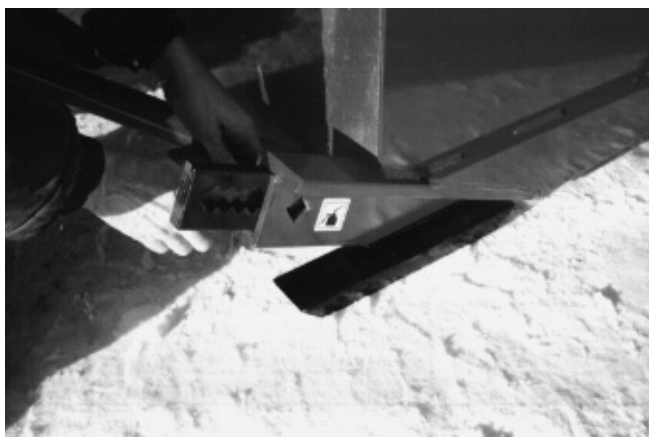

Figure 29
- 5) Adjust skid shoes according to ground conditions (Fig. 29).